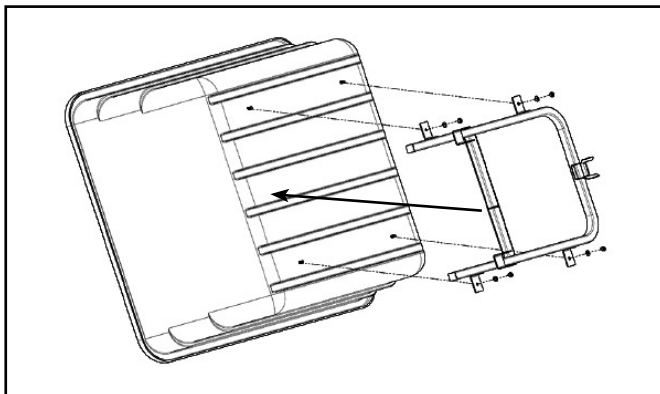

Figure 3.2 - Bed Frame Assembly
2. Have an assistant stand the bed on its side. Refer to Figure 3.2